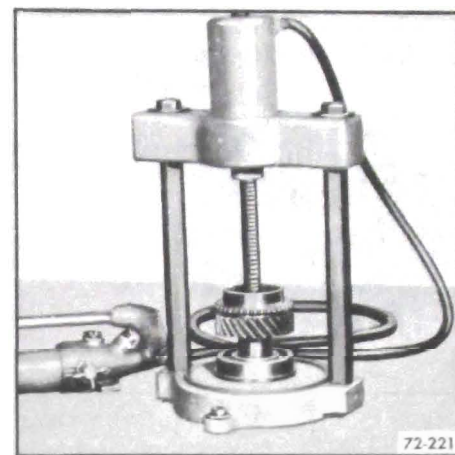

Figure 72-221 - Installing Front Main Bearing
a. Press bearing onto main drive gear (snap ring groove to front). See Figure 72-221. Make certain bearing fully seats against shoulder on gear.